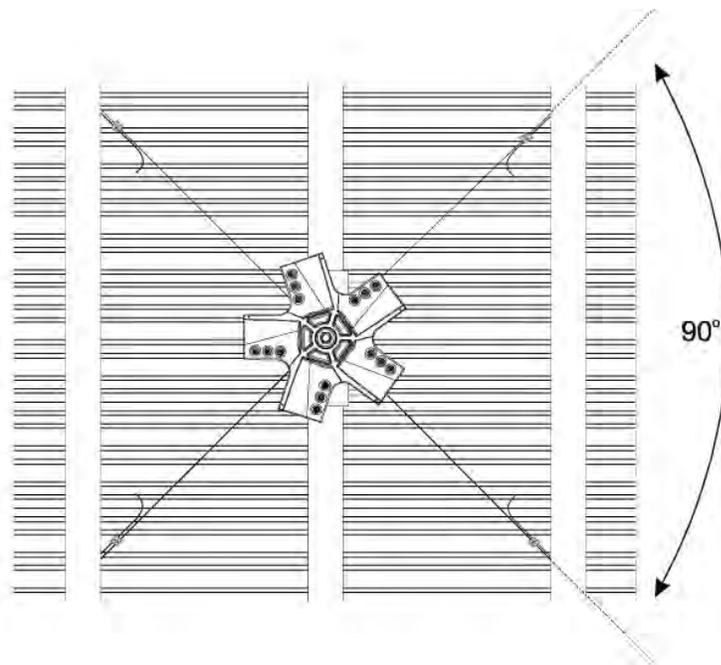

Fig.17
5. Guy wires should be snug but not overstressed to allow free self-levelling. They should also be approximately 90° apart (Fig.17).